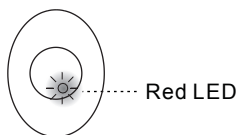

FIG.19
- A red LED is built-in for KDP9, when detector is triggered, it will turn on for approx. 2sec for clear operation (See FIG 19) KDP9 does not has LDE indicator.